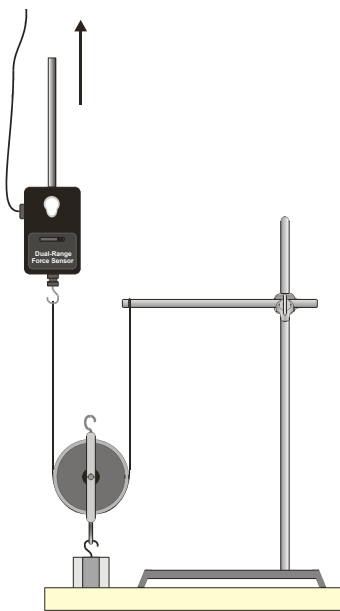
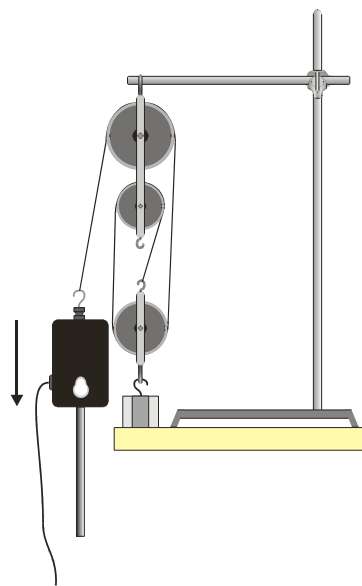

Figure 2
Figure 3
A movable pulley (see Figure 2) moves along the rope with the resistance force, and the direction of the force is not changed. A pulley system may have a single pulley or a combination of pulleys (see Figure 3). Pulleys are used to make work easier.
- d. Select CH1-FORCE (N) from the SELECT CHANNEL menu.
11. Set up Pulley System 2 as shown in Figure 2. Repeat Step 9.
13. Set up Pulley System 3 as shown in Figure 3. Repeat Step 9.